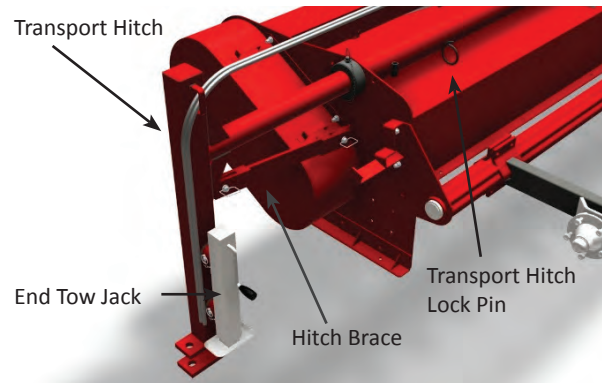

Figure 9: End Tow Components
2. Lower the end tow jack to the ground to take the weight off of the tractor drawbar. See Figure 9 for details.